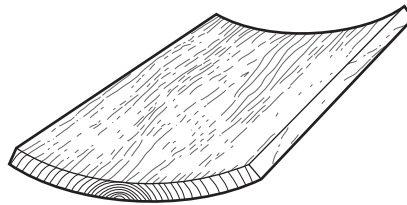

Fig. 2
- 2 Fig. 2 shows a solid wood board that has warped. Give **two** reasons why the solid wood board has warped.